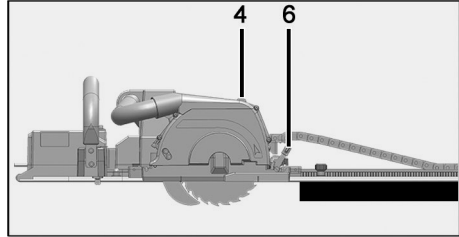

Fig. 15: Placing the machine onto the workpiece for ripping
- Stop the saw blade by pressing the clamping lever 6 (see Figure 15 on page 24) before returning the saw unit to its home position, in case you have interrupted the feed before reaching the stop slide.